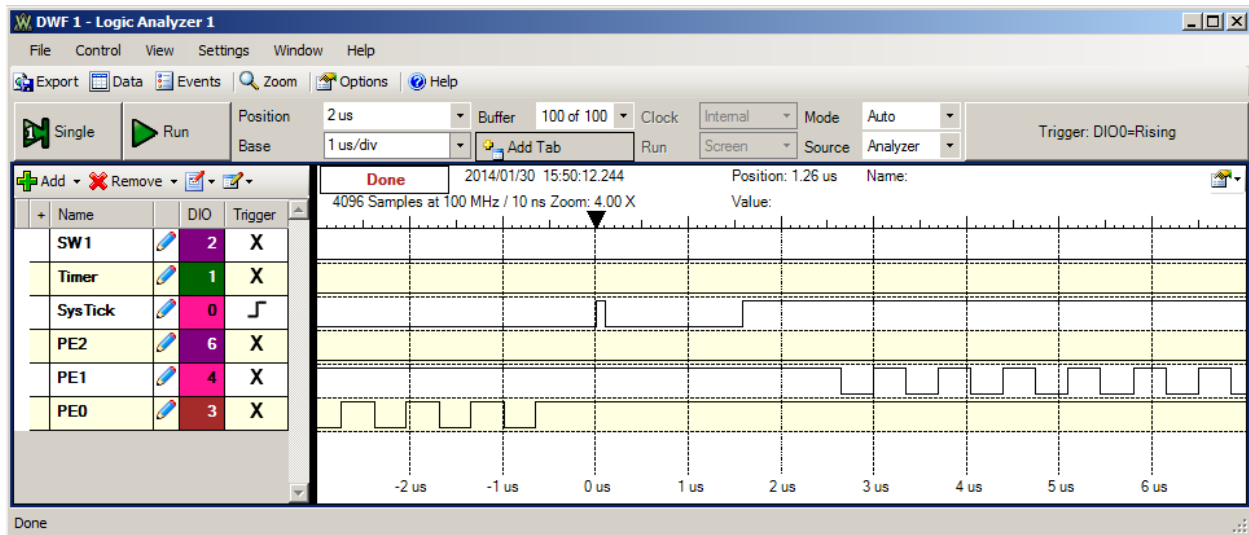
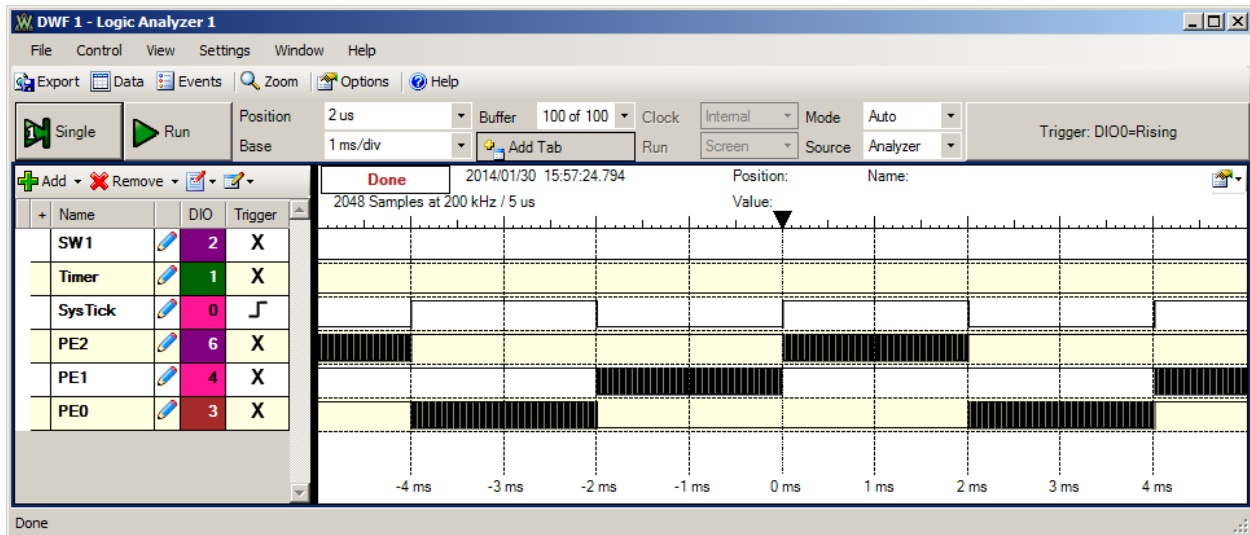

Figure 2.2. Logic analyzer profiling for preemptive thread switching (zoomed in).
Figure 2.3. Logic analyzer profiling for preemptive thread switching (zoomed out).
*Testmain2* needs a preemptive thread scheduler with SysTick interrupts. The SysTick ISR will suspend the running thread and run the next active thread in the list in a round robin fashion. When *Testmain2* executes, the SysTick, PE0, PE1, PE2 outputs will look like Figures 2.2 and 2.3, and the three count variables will be approximately equal. The values of the counters will be much higher than they were in *Testmain1*. Think of an explanation of why this is true. This OS toggles PF1 three times in each SysTick ISR as it is running the preemptive scheduler. In Figure 2.2, each toggle means a thread has started a pass through its main loop. For this system, the SysTick ISR runs in about 1.6  $\mu$ s. Figure 2.3 shows the preemptive thread switch occurs every 2 ms.